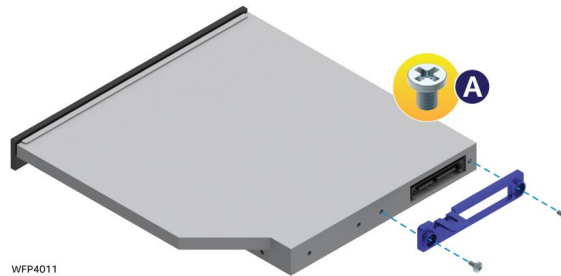

Figure 111. Installing the Plastic Mounting Clip to an Optical Drive
1. From the system's accessory kit, locate the Blue plastic mounting clip and fasten it to the back of the optical drive using two screws as shown in Figure 111.